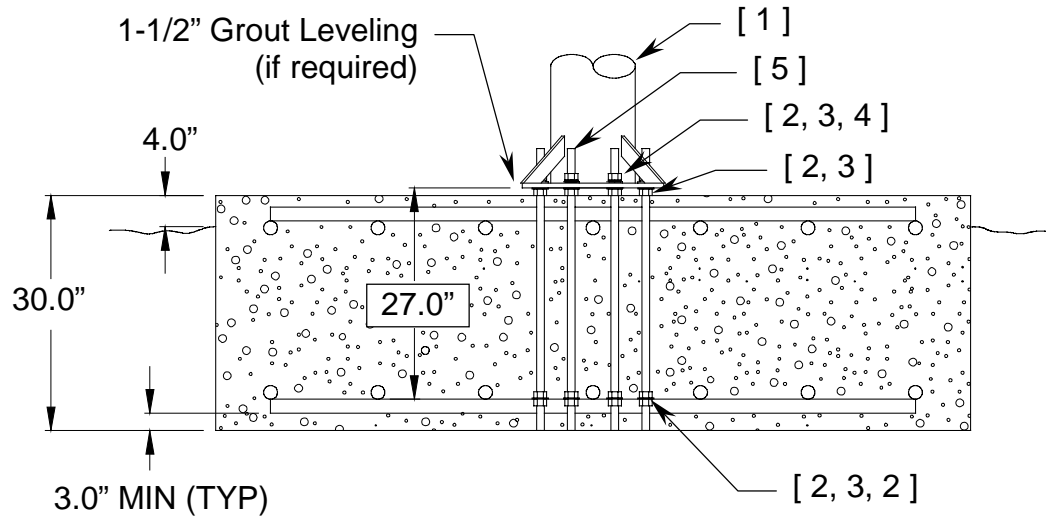
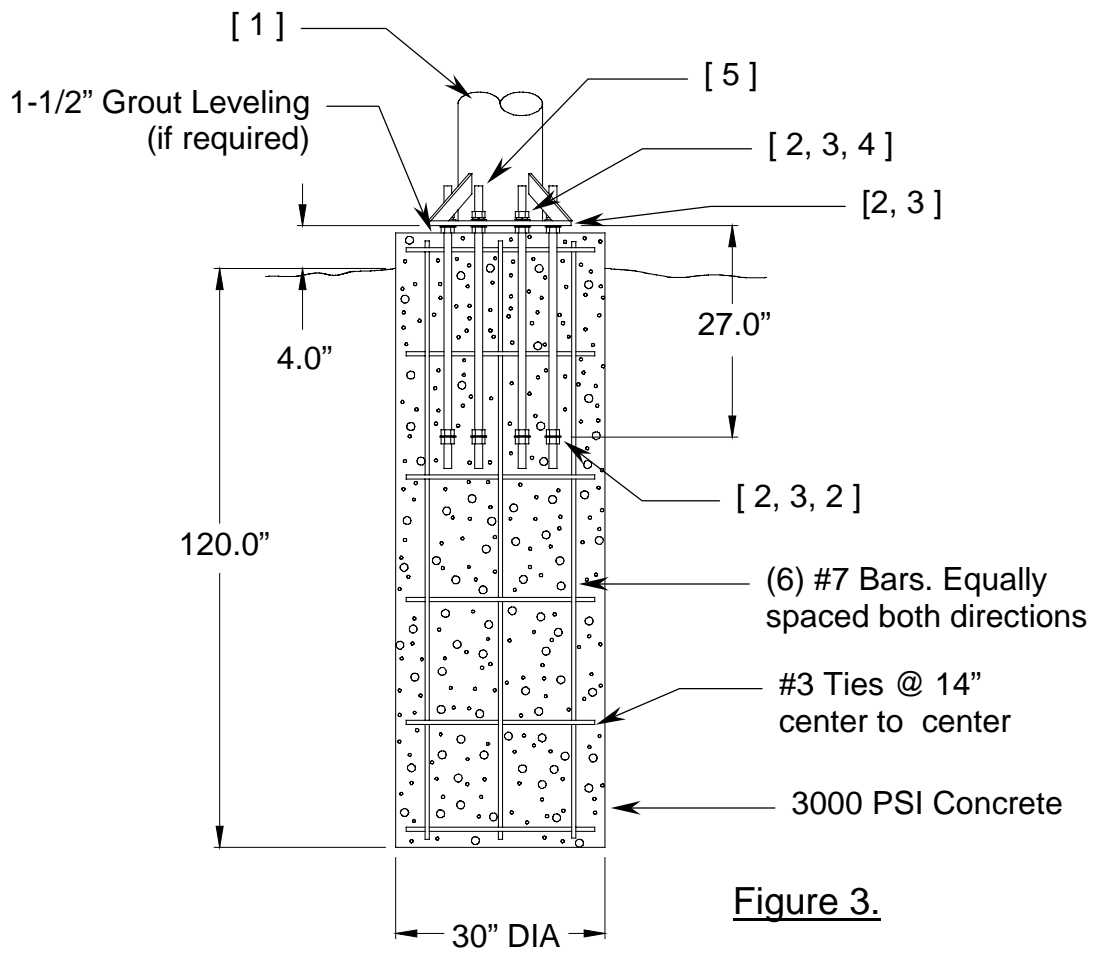

Figure 2.
Figure 3.
Figure 2 shows a suggested Pad Foundation and figure 3 shows a suggested Pier Foundation. Both foundations utilize Prodelin's Pedestal Mount. To install the Pedestal Mount foundation, follow the steps below.
1. Install one [1] 1-8 hex nut and one [1] 1" flatwasher (items 2,3) onto the anchor rod (item 5), then insert the anchor rod into one of the holes in the plywood template (item 6) and install another 1-8 hex nut and 1" flatwasher. Repeat this procedure for the remaining anchor rods. This will keep all the anchor rods in the straight and proper orientation when the concrete is poured. Next, install two [2] 1-8 hex nuts and one [1] flatwasher (items 2,3) on the other end of each anchor rod. See following pad layout and figures 2 & 3.
3. Once the concrete is dry, remove the plywood template and screw the lower hex nuts as far down on the anchor rods as possible. Then install the mast pipe (item 1) on to the anchor rods. Adjust the lower hex nuts until the mast pipe is level in the vertical position. Reinstall the flatwashers, lockwashers and hex nuts. With the mast pipe tightened down, fill the space between the concrete slab and the mast pipe base with grout.